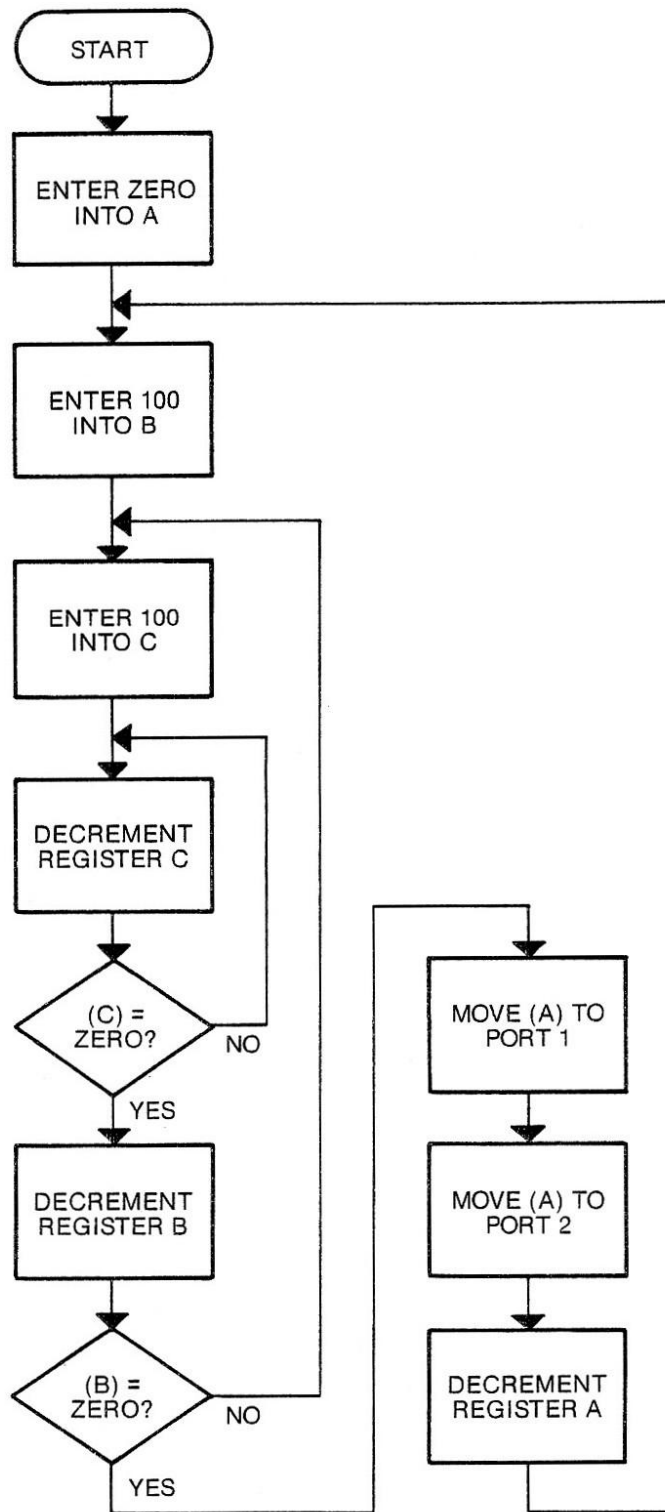

Figure 1. Flowchart for Program to Decrement Output
Step 1. Complete the following program listing by filling in the Mnemonic and Comments columns: (See figure 1 for a flowchart of step 1. Compare your answers with the Answer Key located at the end of this lab for this step.)